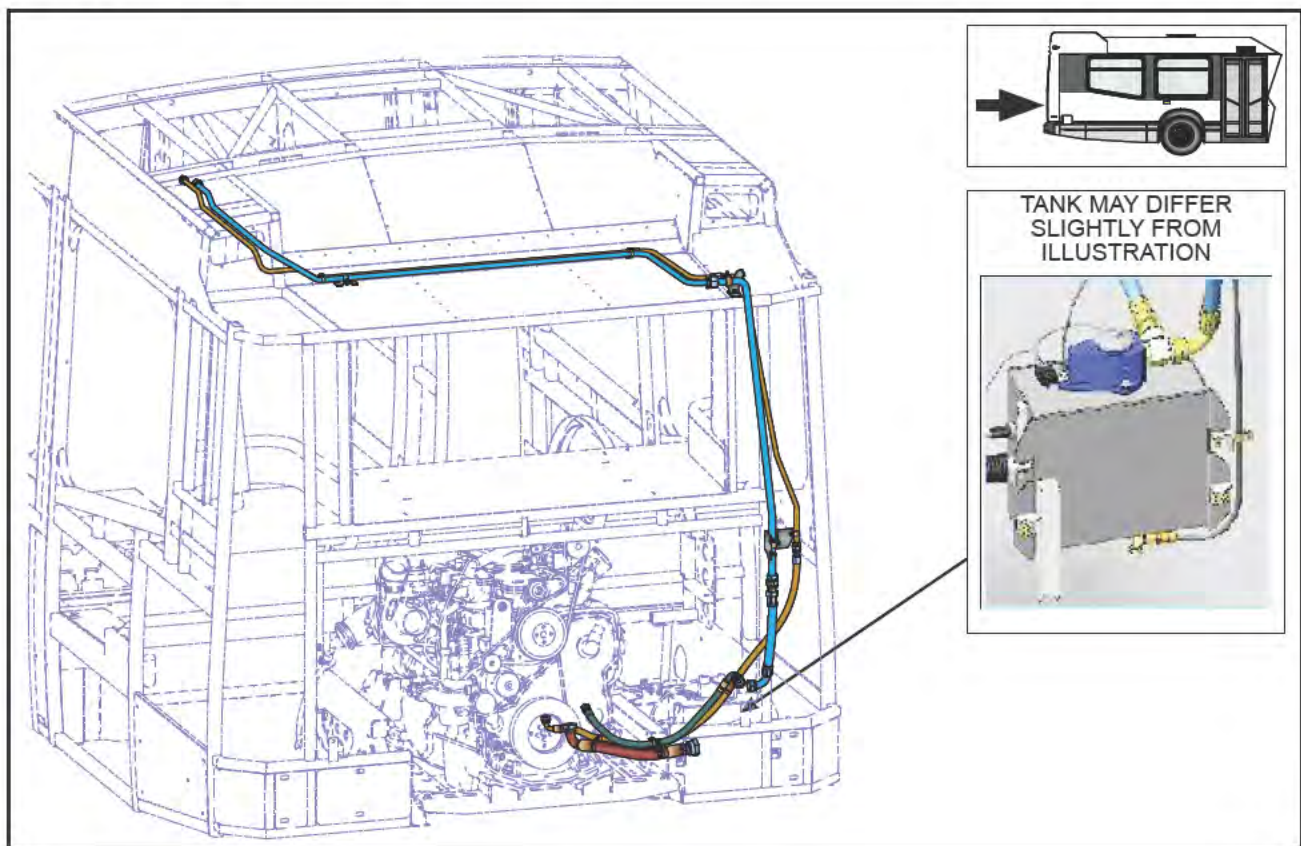

Figure 1 - Hydraulic Tank Location
- 1.1. Drain hydraulic fluid using drain plug located under the hydraulic tank. See Figures 1 and 2. Allow the hydraulic oil to drain into an appropriate container and keep for refilling. Refer to manual section 09: Hydraulic System for drain and fill procedures.